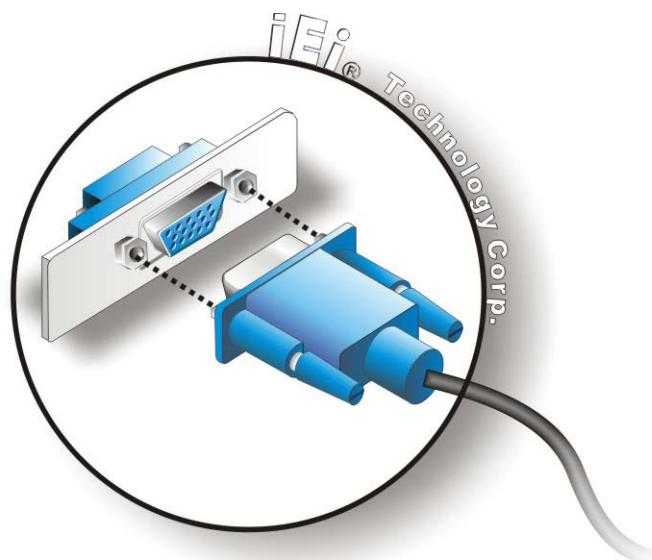

Figure 3-10: VGA Connector
Step 2: Align the connectors. Align the USB device connector with one of the connectors on the external peripheral interface. See Figure 3-10.